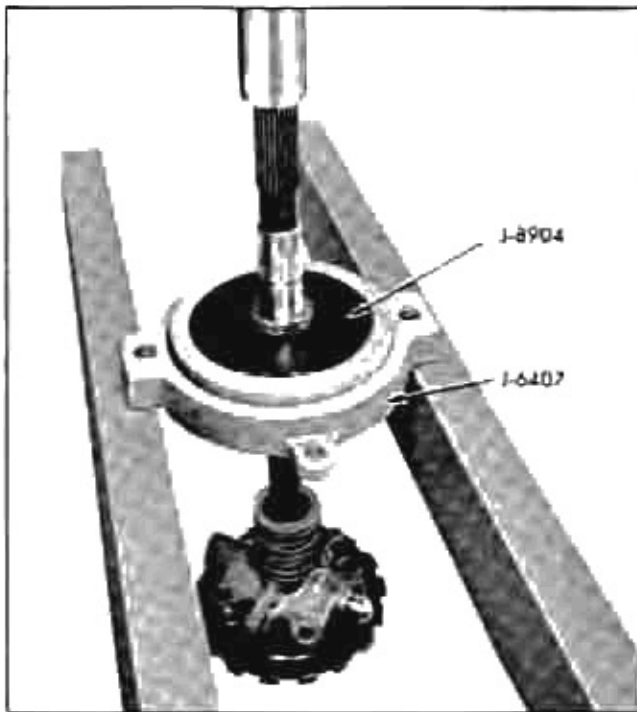

Fig. 51 Tool Set-Up for Removing Speedo Geor
13. Remove speedometer drive gear from output shaft by installing it in press plates J-8904 and holder J-6407 and pressing gear off of shaft (Fig. 51).